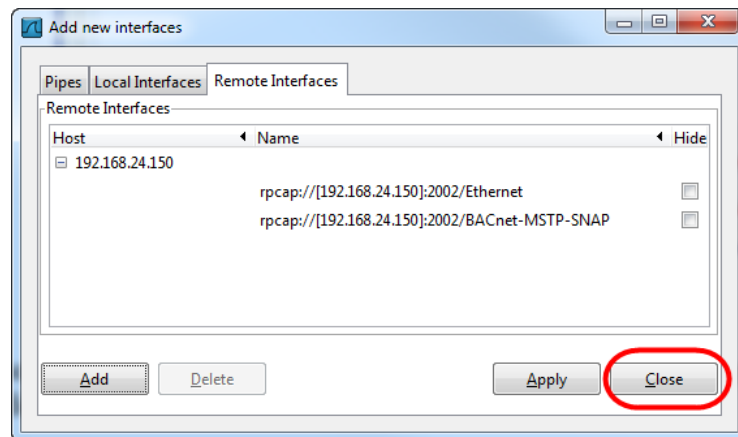

Figure 79: Added new interface to Wireshark.
- If the connection to the device was established successfully, the **Remote Interfaces** list will be updated with information about all capture ports available on the device as shown in Figure 79.